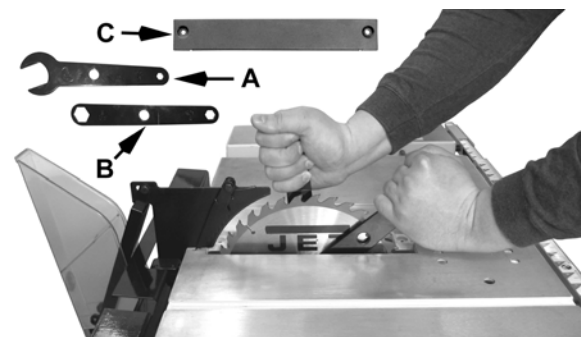

Figure 23
2. Remove the two insert screws and lift the *table insert* (C, Fig. 23) out of the pocket of the table.
3. Place the *open end arbor wrench* (A, Fig. 23) on the flat sides of the inside blade flange to keep the saw arbor from rotating. Rotate the arbor nut counterclockwise with the *closed arbor nut wrench* (B, Fig. 23) and remove the arbor nut and outer flange.